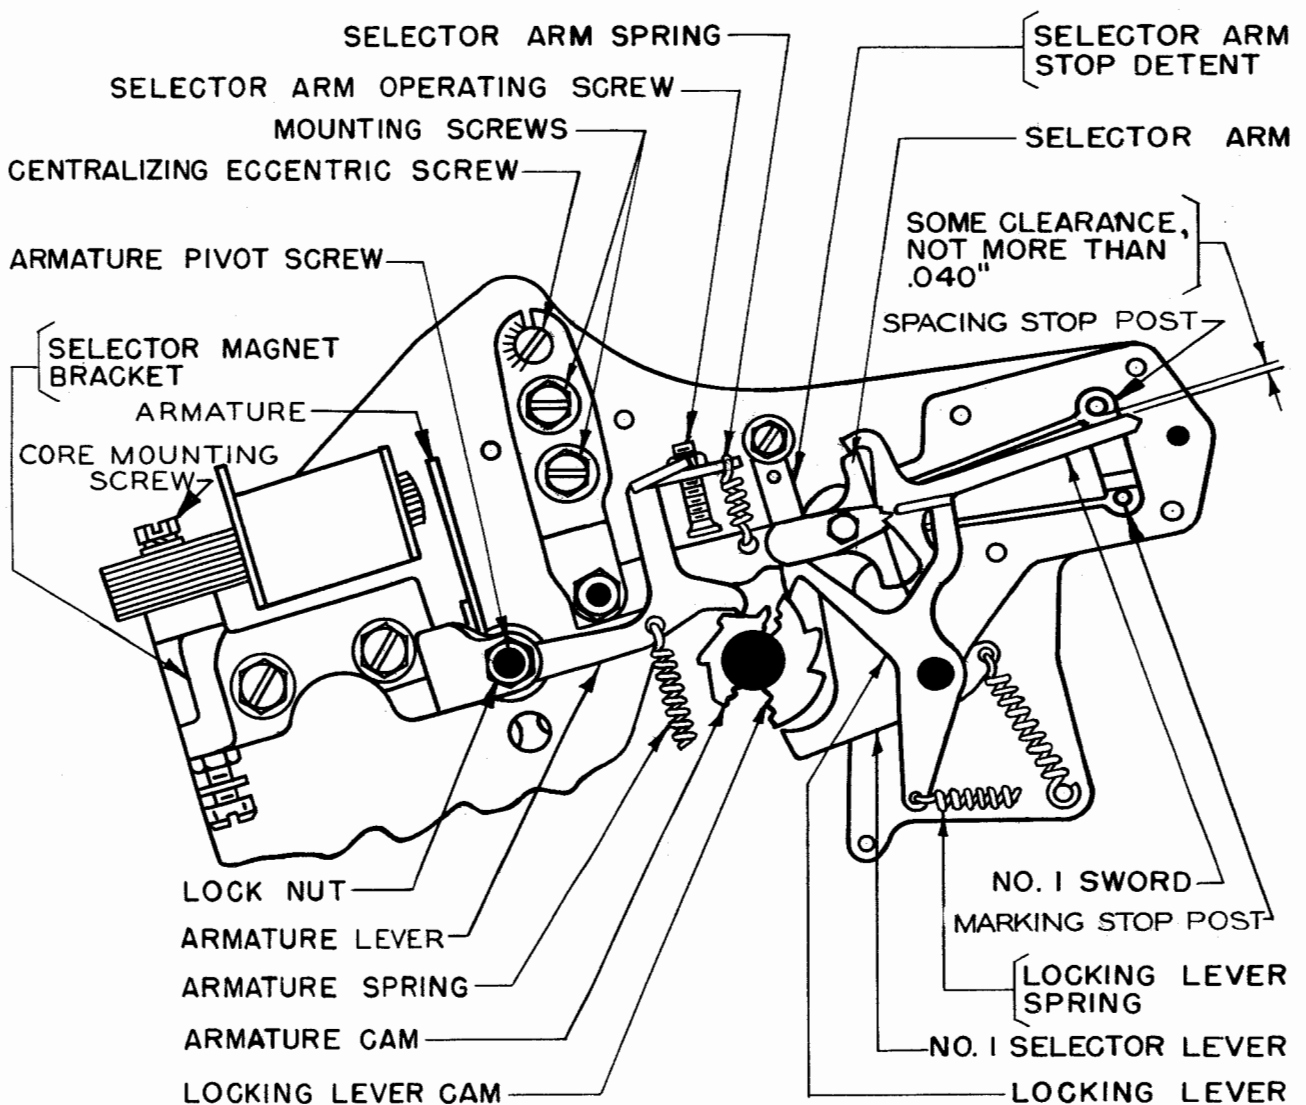
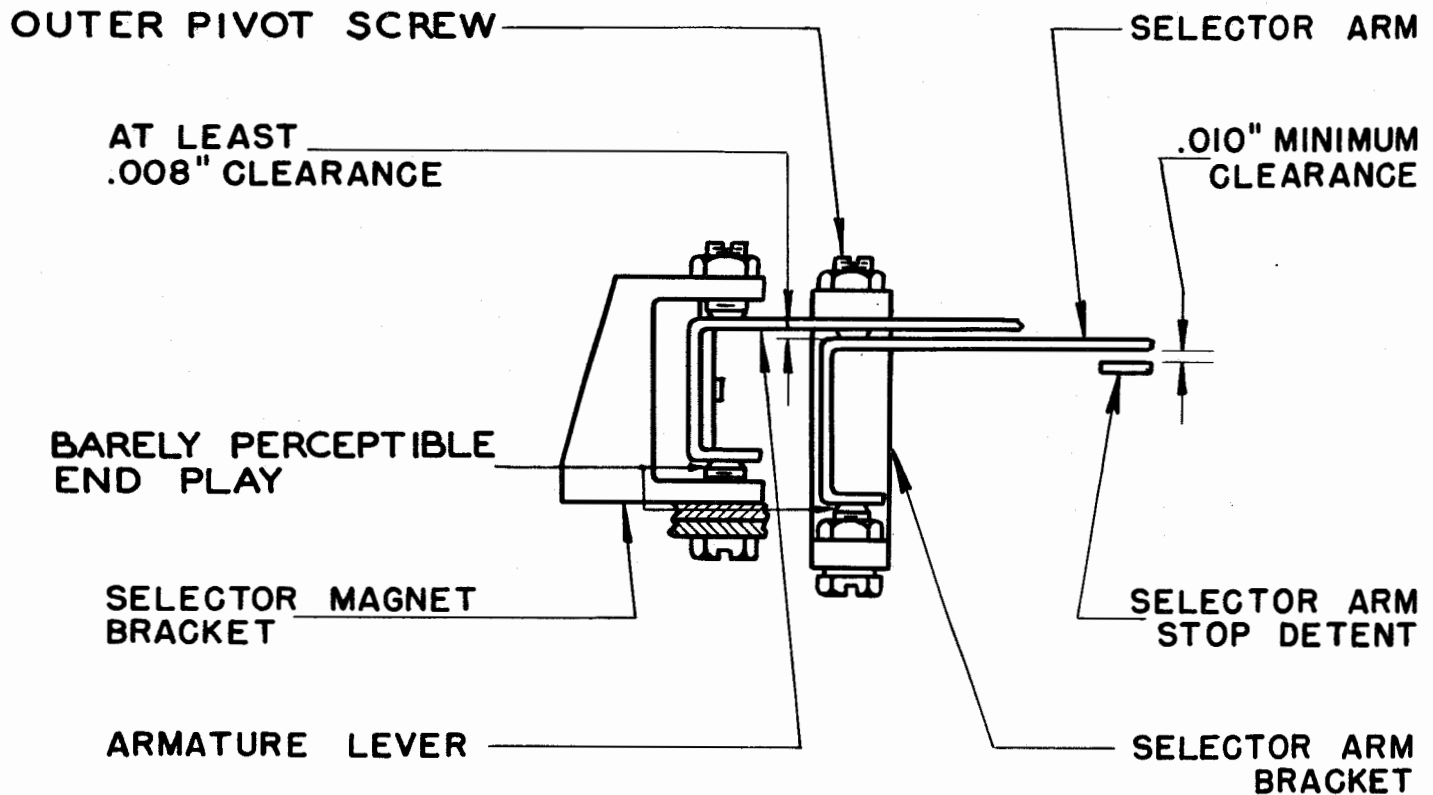

Figure 7
Figure 8
2.05 Armature Lever (holding magnet) shall have a barely perceptible amount of end-play (not more than 0.002 inch) when the armature lever and selector-arm springs are unhooked. See Figure 7 for identification of parts. (See Figure 8.)
2.07 Selector Arm (holding magnet) shall be free in its bearings with barely perceptible endplay (not more than 0.002 inch) and the locking lever shall overtravel the top and bottom edges of the locking wedge, with the armature-lever spring, the selector-arm spring, and the selector-arm stop-detent spring unhooked. There shall be a clearance of not less than 0.008 inch between the selector arm and the armature lever, and of not less than 0.010 inch between the selector arm and the selector-arm stop-detent when the play in the detent is taken up in a direction to make this clearance a minimum. (See Figure 8.)
2.08 Swords (holding magnet) should clear both stop posts by approximately equal amounts judged by eye, but not more than 0.040 inch measured as in Figure 7 after (1) removing springs from the locking lever, armature lever, and selector arm, (2) placing associated selector lever on the peak of its cam, (3) placing the sword arm against the selector arm, and (4) moving the selector arm slowly from its unoperated or operated position to a point where the selector arm just clears the sword arm.